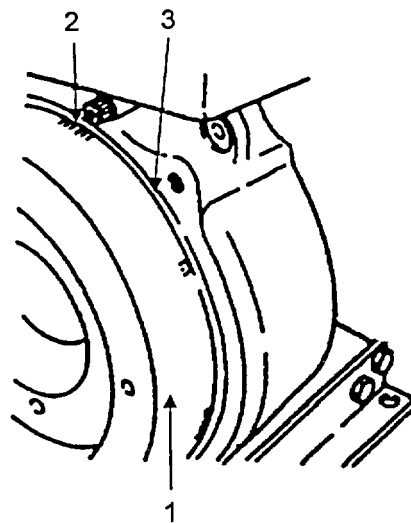

FIGURE 5-9. TIMING MARKS
a. With flywheel timing marks (Figure 5-9, Item 2) (11.5 to 12.5 degrees) aligned with reference mark (3), rotate dial gauge 61208700 face to zero.
b. Slowly rotate flywheel (1) in a clockwise direction when facing flywheel, until dial gauge indicates the delivery lift measurement. See note above.